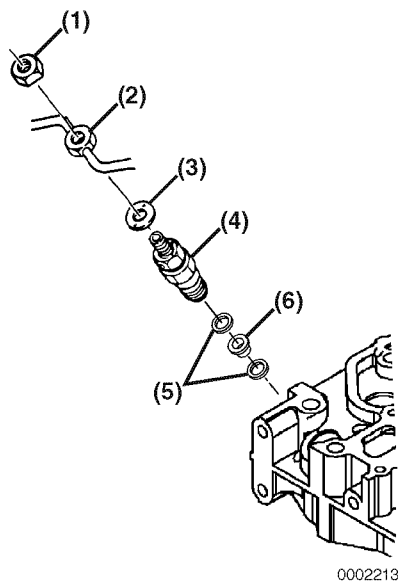

Figure 7-33
1. Insert the nozzle gaskets (**Figure 7-33, (5)**) and nozzle protector (**Figure 7-33, (6)**) in the cylinder head.
2. Reinstall the fuel injector (**Figure 7-33, (4)**) in the cylinder head and tighten to specification.
3. Reinstall new copper washers (**Figure 7-33, (3)**), high-pressure and return fuel lines (**Figure 7-33, (2)**). See *Installation of High-Pressure Fuel Injection Lines* on page 7-12 and *Installation of Fuel Return Line* on page 7-13. Tighten fuel line nuts (**Figure 7-33, (1)**) to specifications.